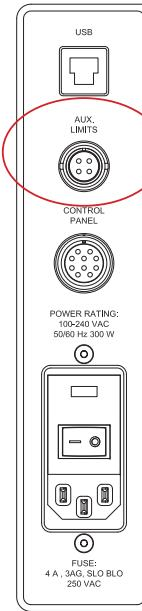

Fig. 2
3. Plug the interlock cable into the corresponding connector in the rear of the test stand column, labeled "AUX. LIMITS", as shown in Fig. 2.